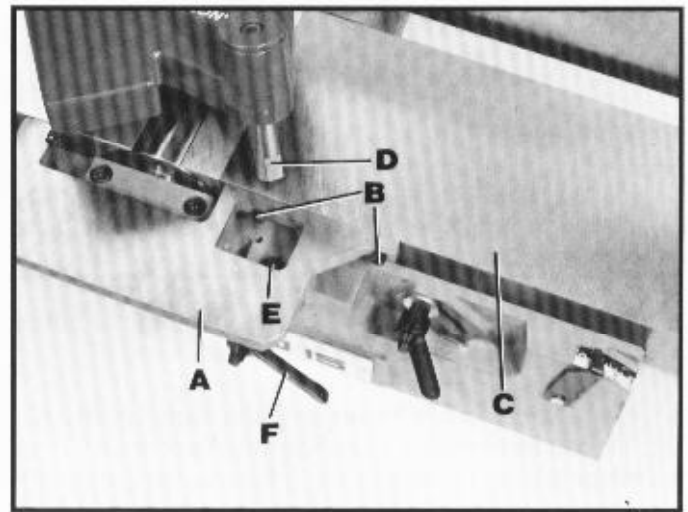

Fig. 8
Assemble the rabbeting ledge (A) Fig. 8, to the side of the infeed table using the two 3/4" long socket head cap screws (B). **NOTE:** The rabbeting ledge must be level with the top surface of the infeed table (C).
To assemble the cutterhead guard, insert post (D) Fig. 8, into hole (E) and tighten locking lever (F) against flat on post.